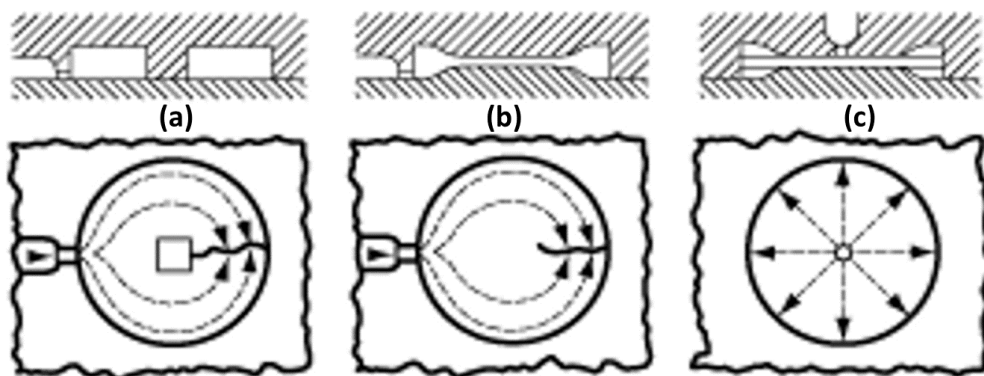

Figure 2: Gate positions
- (2). An engineer is given a task of designing an injection moulding cavity for new product development. Figure 2 shows the gate position that should be selected for the best mould design.
- (a). Based on Figure 2, recommend the gate position to be used for the mould design. Give justification for your answer.